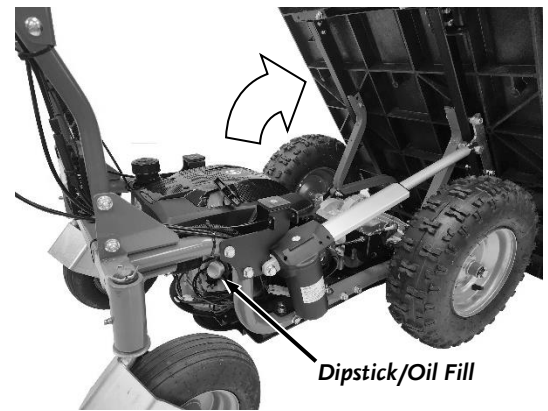

Figure 37
1. Lift the Bed to the fully upright position (**Figure 37**).